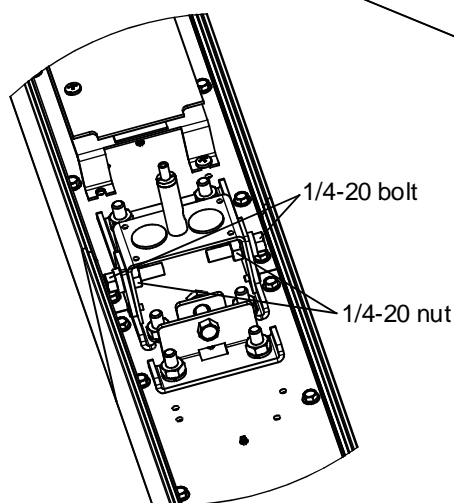

Fig. 4
8. If necessary, use 1/4-20 bolts on the sides of suspension connection bracket to help align the fixture body sections. Loosen the bolts until they press firmly against the side of the fixture (Fig. 4).
9. Lock bolts into place by tightening internal 1/4-20 nuts (Fig. 4)
10. Use supplied silicone and plastic knives to cover the inside the joints between sections and at the ends to prevent light leaks. (Fig. 4)